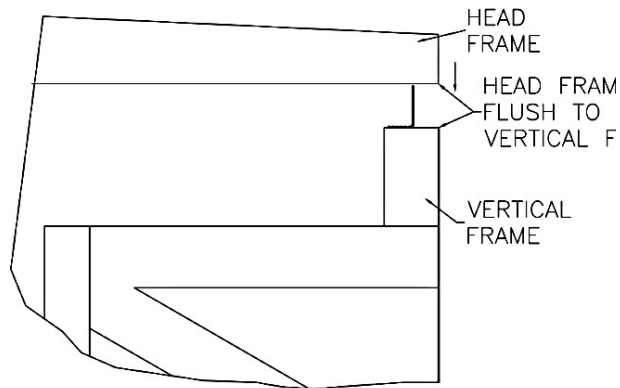

FIG 8A
- Set Head Frame on outside of left and right Angle Brackets (Figure 8a).